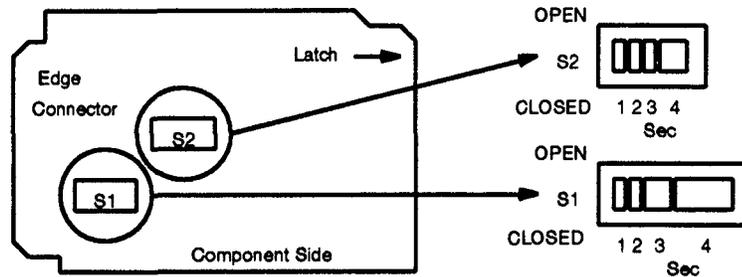

Figure 1. AKM2 MXR1 Option Settings
12. Refer to **Figure 1** and set the option switches on the **AKM2 MXR1**.